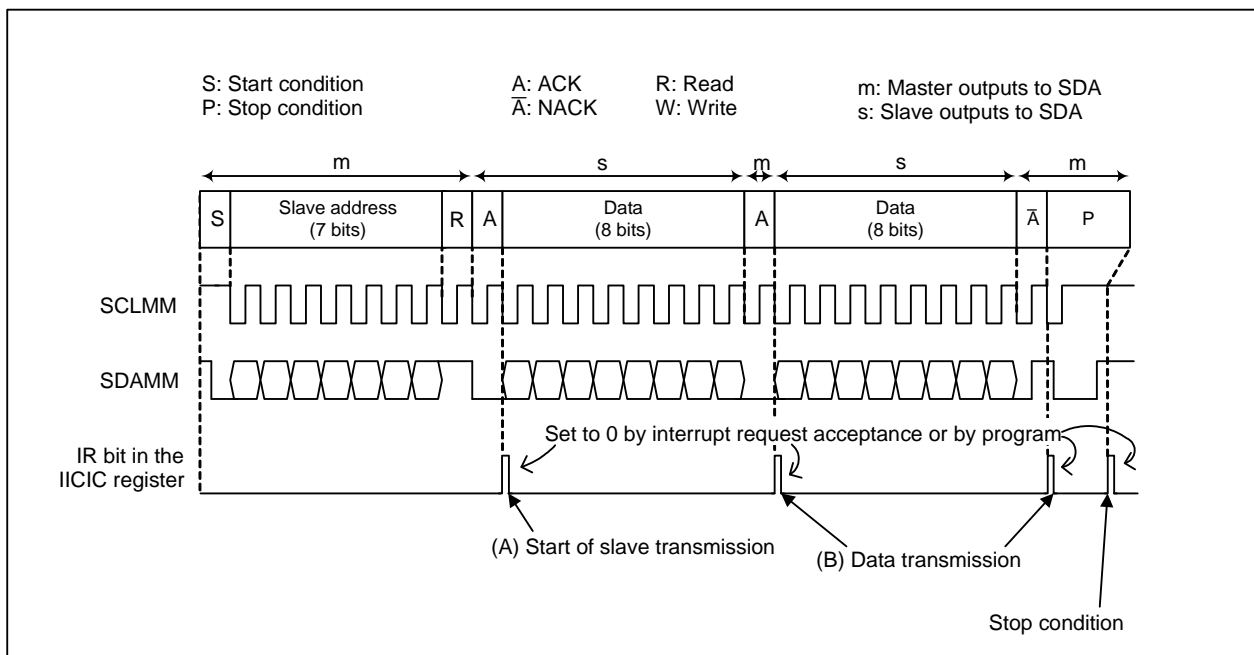

Figure 22.20 Example of Slave Transmission
Slave transmission is described in this section. The initial settings described in 22.3.10.1 “Initial Settings” are assumed to be completed. Figure 22.20 shows the example of slave transmission. The following programs (A) to (B) are executed at (A) and (B) in Figure 22.20, respectively. When arbitration lost is detected, the TRX bit becomes 0 (receive mode) even when the bit after the slave address is 1 (read). Therefore, after arbitration lost is detected, read the S00 register. When the bit 0 in the S00 register is 1, write 4Fh (slave transmit mode) to the S10 register and execute slave transmission.